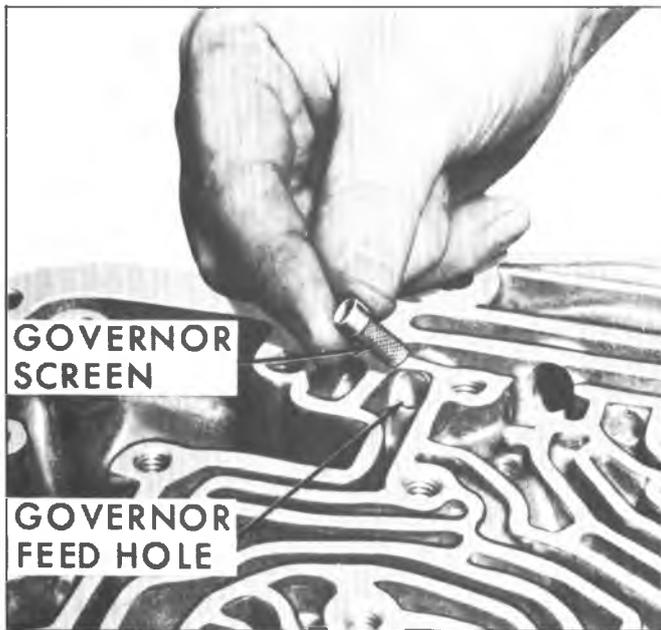

Fig. 17M--Removing Governor Feed Screen
7. Remove governor feed screen from governor feed hole (drive oil) in case (fig. 17M).